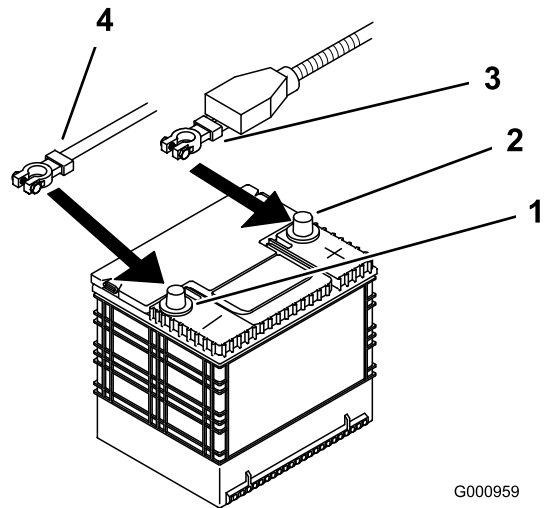

Figure 56
4. First disconnect the negative battery cable from the negative (-) battery terminal (Figure 56).
5. Slide the red terminal boot off the positive (red) battery terminal. Then remove the positive (red) battery cable (Figure 56).
4. Secure the cables with 2 bolts (1/4 x 3/4 inch), 2 washers (1/4 inch), and 2 locknuts (1/4 inch) (Figure 56).